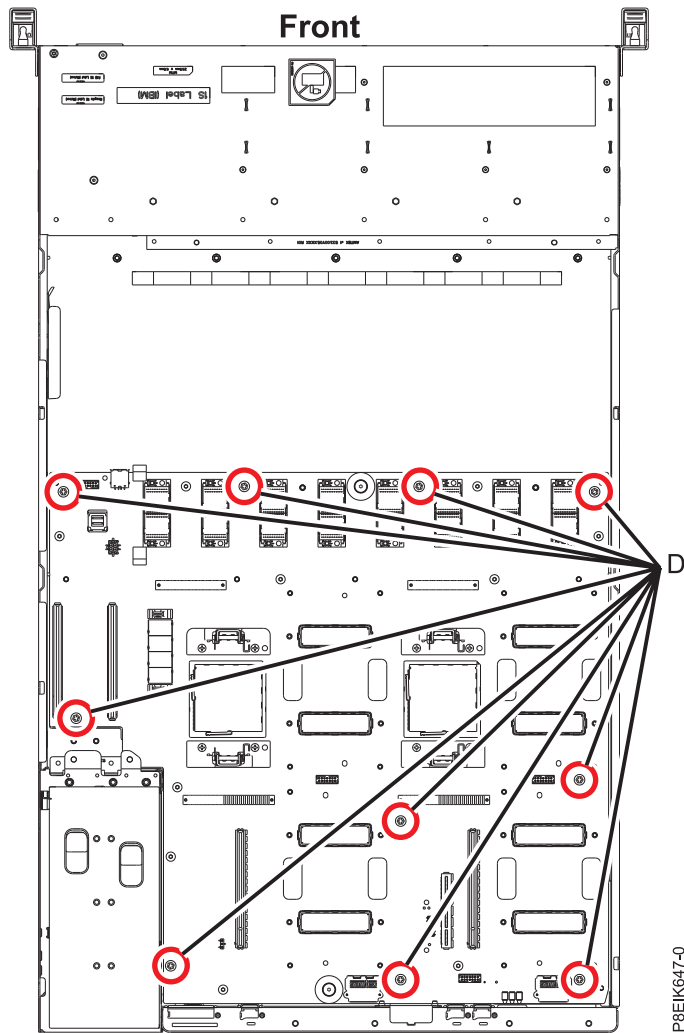

Figure 117. System backplane screw locations
13. Unscrew and remove 10 black hex screws (D) from the system backplane. The screw locations are shown in Figure 117 on page 99.